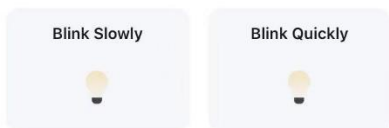

Fig.5
- 2) Tap "Confirm the indicator is blinking" in Fig.4. You will get Fig.5 that asks you to select the status of the indicator light. Tap "Blink Quickly".
- 2) Tap "Confirm the indicator is blinking" in Fig.4. You will get Fig.5 that asks you to select the status of the indicator light. Tap "Blink Slowly".